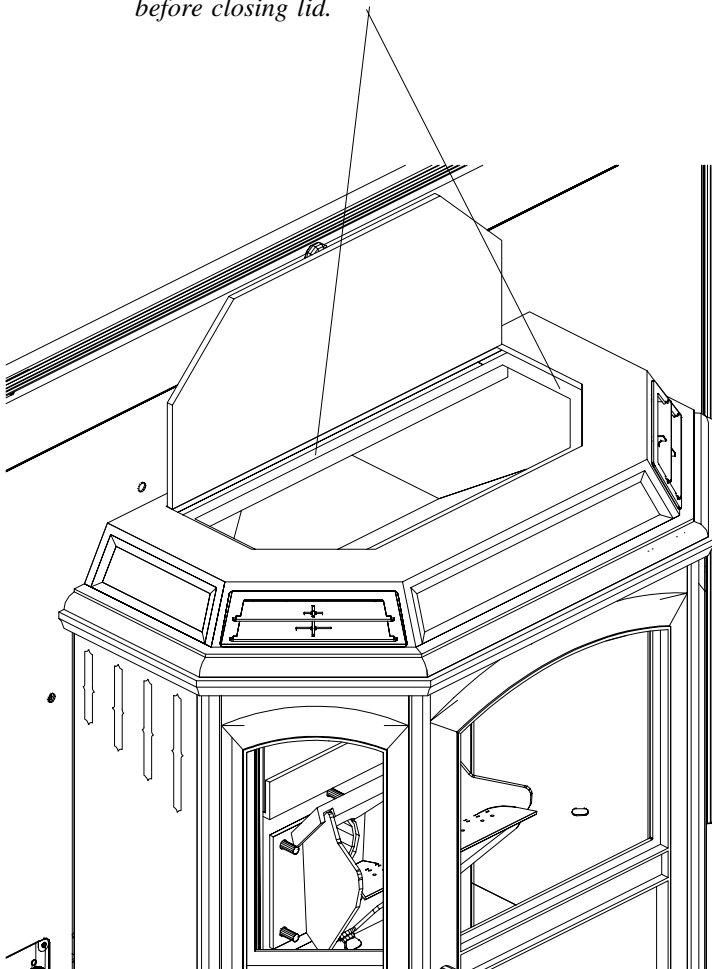

Fig. 12
**Fill the hopper** with pellets, fig. 12.